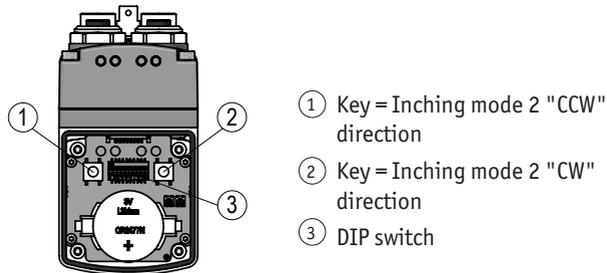
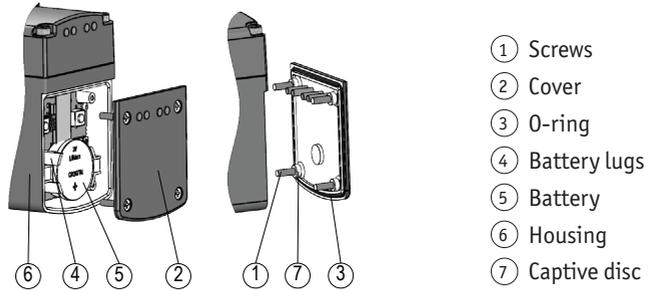

Fig. 13: Controls
Fig. 14: Battery change
The actuator has various LEDs, which indicate the statuses of drive and Ethernet module. The operating elements are located underneath the cover (Fig. 13, Fig. 14).
- ▶ Evenly tighten screws ① until cover ② is seated completely on stop on the housing ⑥ (Fig. 14).
- ▶ Take care that the O-ring ③ is seated correctly.
Deinstallation (Fig. 14):
Installation (Fig. 14):